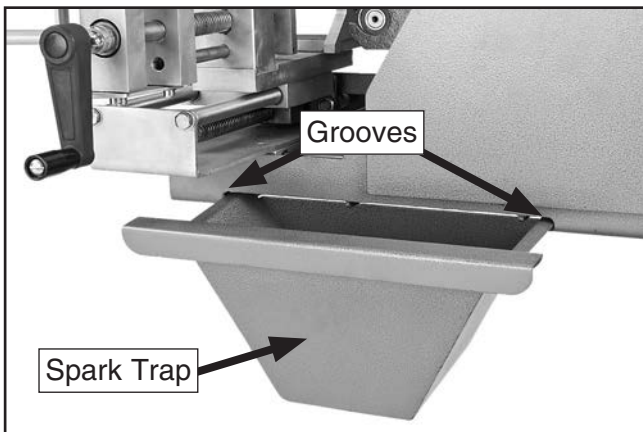

Figure 17. Spark trap positioned in grooves.
18. Slide spark trap into grooves on right side of machine, as shown in **Figure 17**.